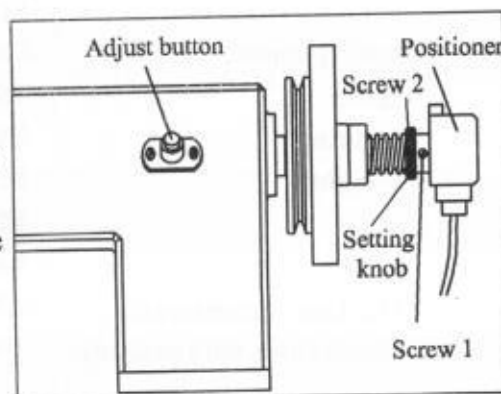

Fig 3
3.4 Stitch length adjustment (Fig 3)
The positioner is used to control the pause position of the needle bar. Loosen the screws 1 on the positioner (Fig 3), then set the stopping position by adjust the relative position between the positioner and the main shaft.
To adjust the safety clutch, proceed as follows(Fig 3)